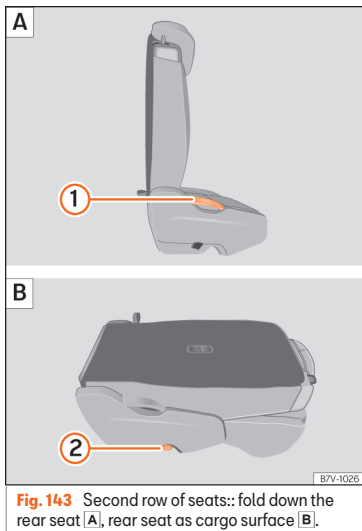

Fig. 143 Second row of seats: fold down the rear seat [A], rear seat as cargo surface [B].
- Remove objects from the footwell in front of and behind the rear seat » ❶.
- Pull lever » Fig. 143 ❶ back and fold the seat backrest forwards. The complete rear seat folds forward » ❷.
- Fold the seat backrest forwards until it locks into the load surface position » Fig. 143 [B].
- Pull lever »» Fig. 143 ❶ upwards and place the seat backrests in vertical position. The entire seat folds backwards.